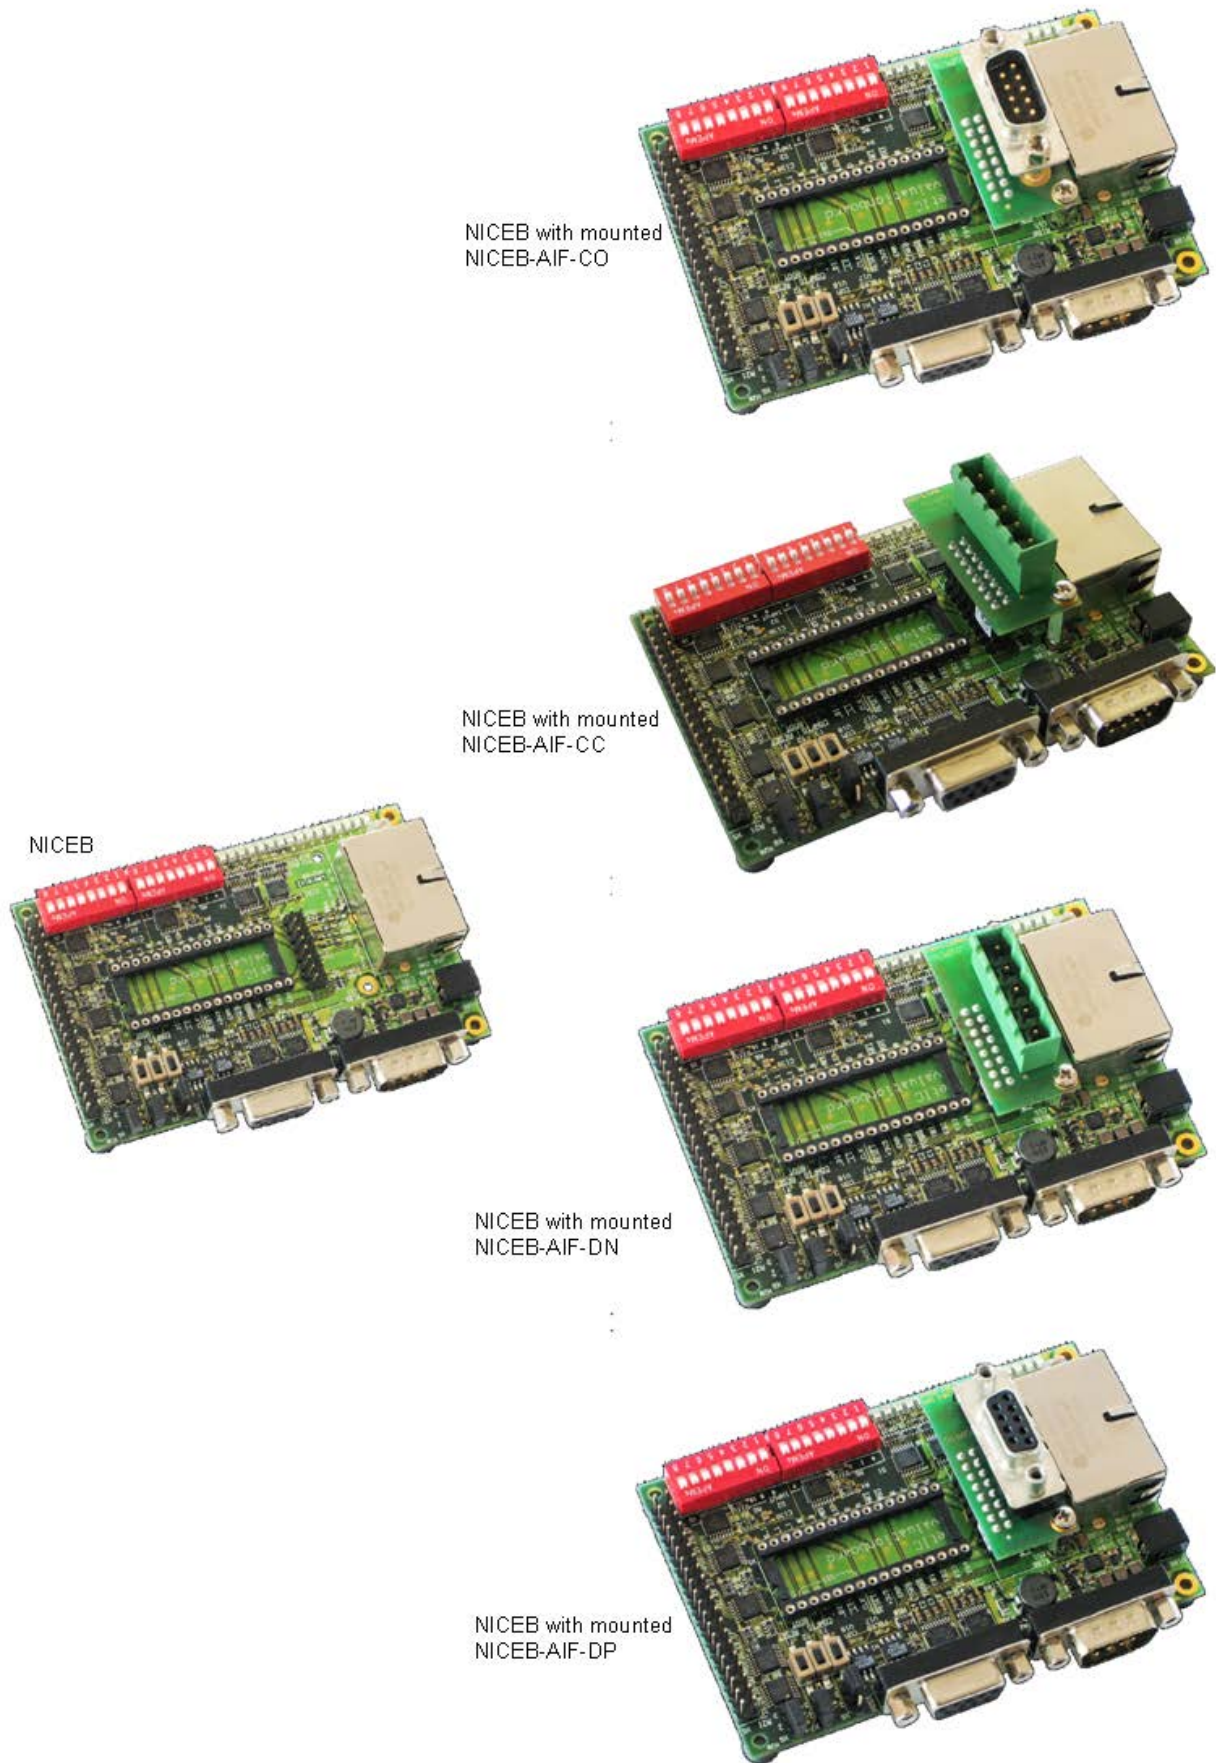

Figure 5: NICEB with Adapter
- ↷ Your NICEB Evaluation Board should now look like the left picture in the respective picture row in *Figure 5: NICEB with Adapter* on page 45. (The order in is as follows: CANopen, CC-Link, DeviceNet and PROFIBUS-DP)